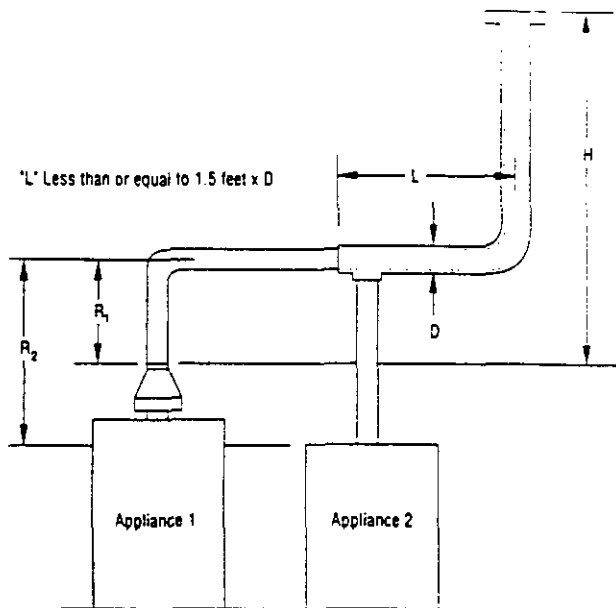

FIGURE 7
- 5) If vent connectors are combined prior to entering the common vent, the maximum common vent capacity listed in the common venting tables must be reduced by 10%, the equivalent of 1 (one) 90° elbow (0.90 x maximum common vent capacity). See Figure 7. The horizontal length of the common vent connect or manifold (L) should not exceed 1-1/2 feet (18 inches) for each inch of common vent connector manifold diameter.